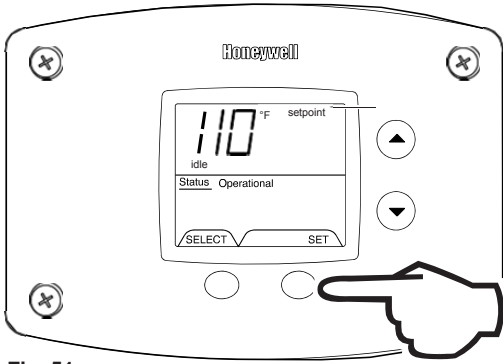

Fig. 51
4. To lower the temperature setpoint, press the 'Temperature Down' button until the desired temperature is shown on the water heater display (Fig. 51).